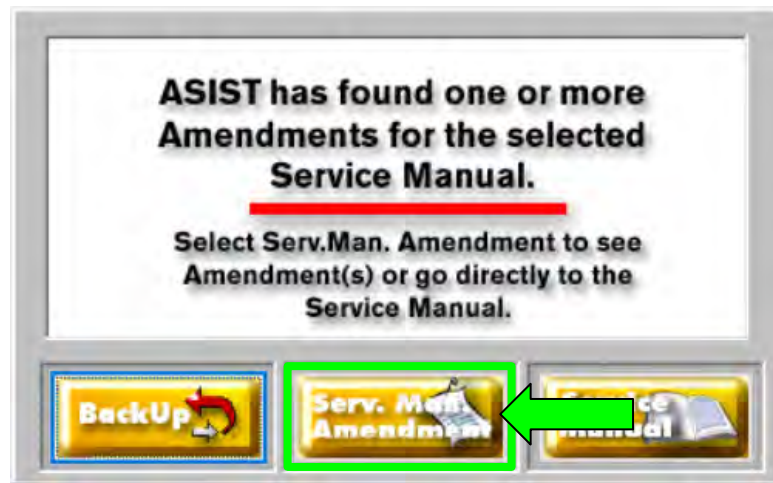

Figure 9
- d. **Serv. Man. Amendment** (Figure 9).